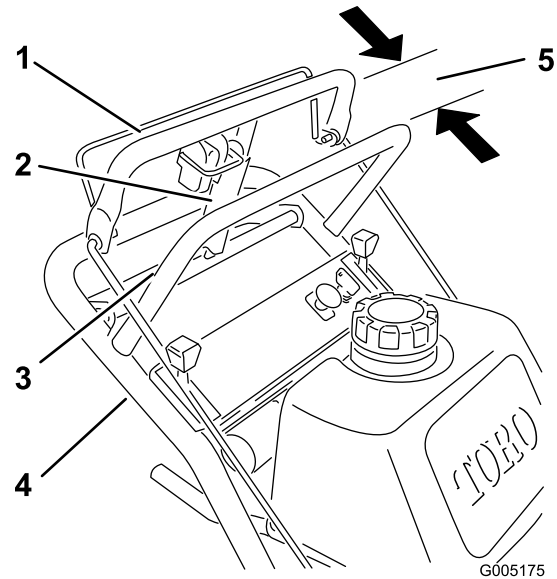

Figure 40
1. Check the gap between upper control bar and fixed bar with wheel drive fully engaged. The gap should be approximately 25-32 mm (1 to 1-1/4 inch) (Figure 40).